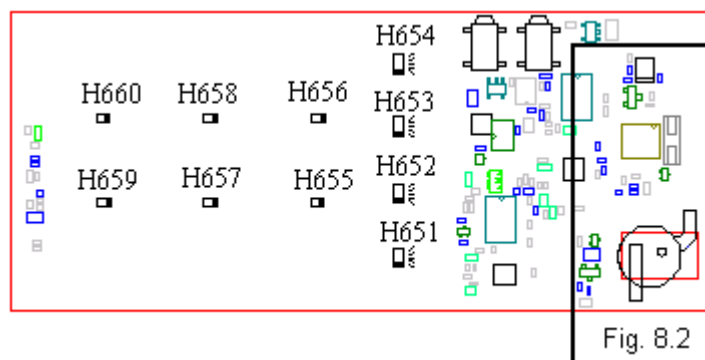

Fig. 8.1
The front side of the circuit board is shown in fig. 8.1.
Make sure all the LEDs (H651-H654, all of class A, fig. 8.1) are mounted and correctly soldered.
- * If the resistance of the LEDs is high, make sure there's VBATT voltage at the marked side of the LEDs (fig. 8.1).
Make sure all the LEDs (H655-H660, all of class A, fig. 8.1) are mounted and correctly soldered.